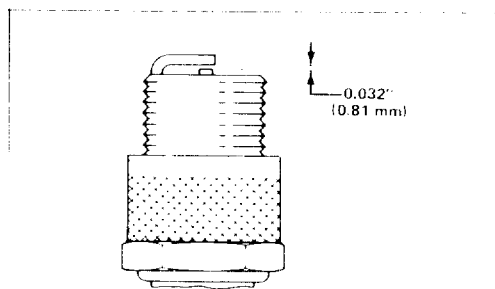

Figure 4
3. Set air gap (Fig. 4). Install correctly gapped spark plug and gasket seal. Tighten plug firmly to 10 ft-lb (13.6 N-m).